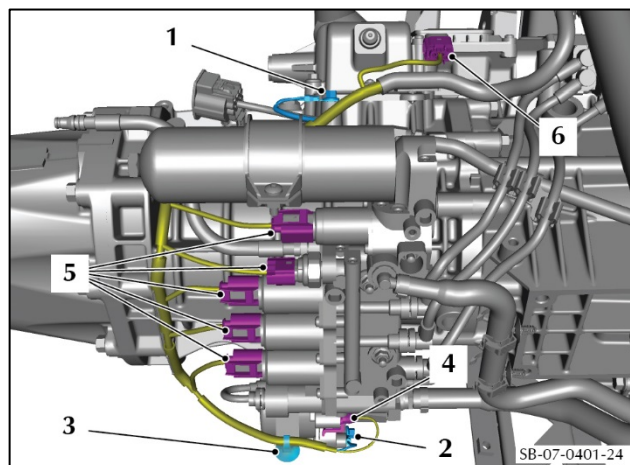

Figure 50
96. Connect the electrical connector (6) to the control module (refer to Figure 50).
97. Connect the five electrical connectors (5) to the valve block.
98. Connect the electrical connector (4) to the ASM pump.
99. Install the clip (3) that attaches the electrical harness.